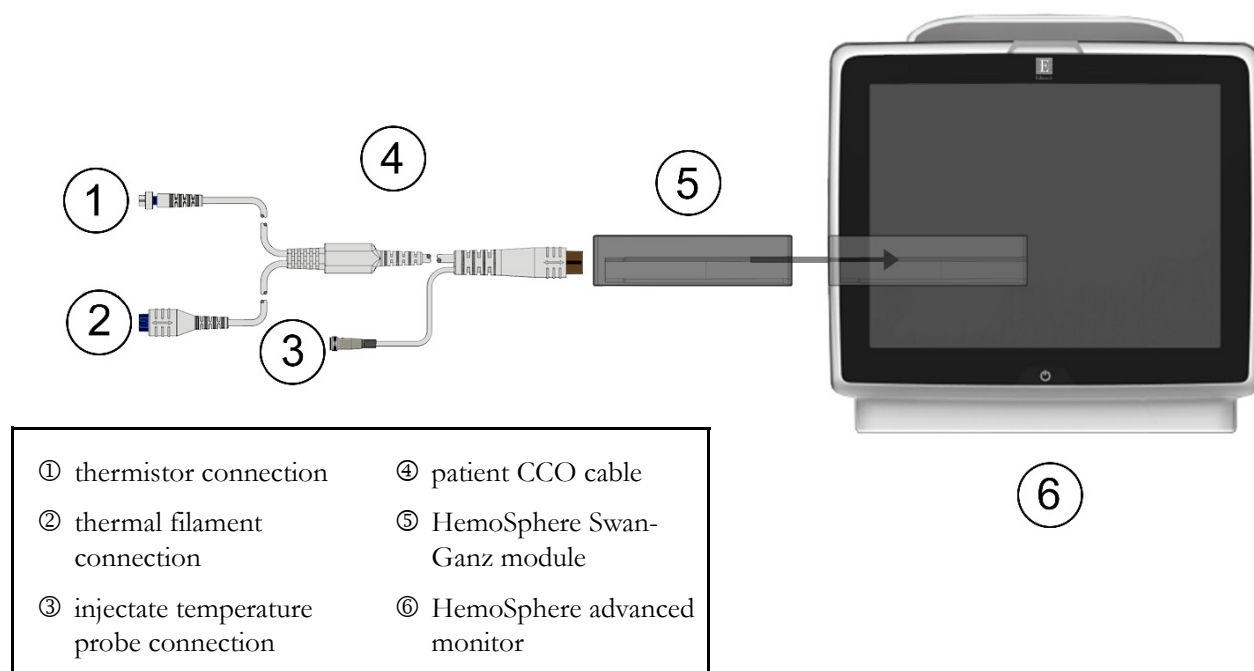

Figure 4-1 HemoSphere Swan-Ganz module monitoring connection overview
Refer to figure 4-1 for HemoSphere Swan-Ganz module monitoring connections.
- 9 Attach the thermistor ① and thermal filament ② Swan-Ganz CCO catheter connections (figure 4-1) to the patient CCO cable.
- 9 Attach the Swan-Ganz catheter thermistor connection (①, figure 4-1) to the patient CCO cable.
- 10 Connect the injectate temperature probe to the injectate temperature probe connector ③ on the patient CCO cable. The injectate system type (in-line or bath) is automatically detected.
9 Attach the thermistor ① and thermal filament ② Swan-Ganz volumetric catheter connections (figure 4-1) to the patient CCO cable.